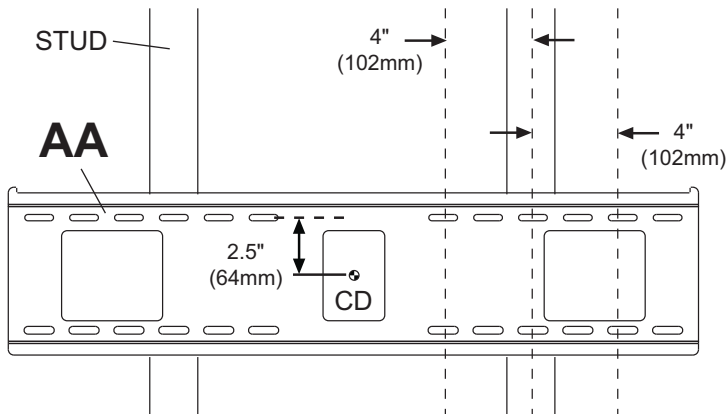

fig. 1.1
1 Use a stud finder to locate the edges of the studs. Use of an edge-to-edge stud finder is highly recommended. Based on their edges, draw a vertical line down each stud's center. Place wall plate on wall as a template. The top mounting slots should be 2.5" (64mm) above the desired display center as shown in figure 1.1. Level plate, and mark the center of the four mounting holes. Make sure that the mounting holes are on the stud centerlines. Drill four 5/32" (4mm) dia. holes 2.5" (64mm) deep. Make sure that the wall plate is level, secure it using four #14 x 2.5" wood screws (**DD**) as shown in figure 1.2.
NOTE: Wall plate may be mounted up to 4" (102mm) off center as shown in figure 1.1.
- 1** Make sure that wall plate (**AA**) is level, use it as a template to mark four mounting holes. The top mounting hole should be 2.5" (64mm) above the desired display center as shown in figure 1.1 on page 4. Drill four 5/16" (8mm) dia. holes to a minimum depth of 2.5" (64mm). Insert anchors (**EE**) in holes flush with wall as shown (right). Place wall plate over anchors and secure with #14 x 2.5" screws (**DD**). Level, then tighten all fasteners.